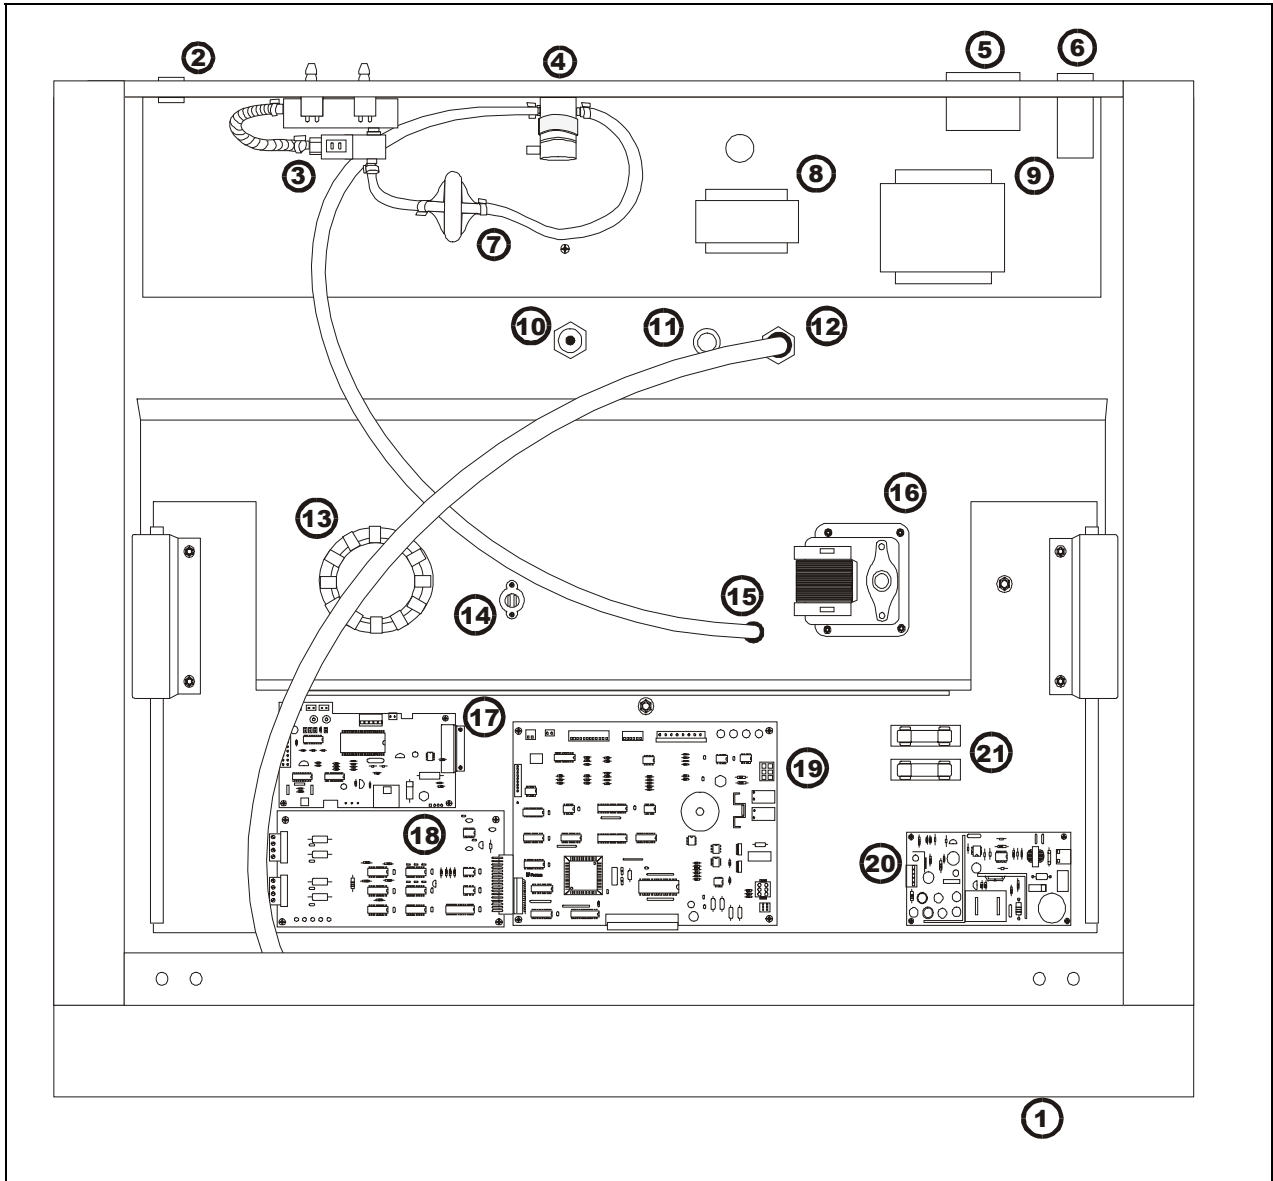

Figure 5-8
5. Refer to Figure 5-8 for the location of the two fuses. (Items 21 in the illustration)
Refer to Figure 5-8. Some of the components shown in this illustration are factory installed options. They are identified as such in the descriptions below.
3. Locate the Analog Output board, Figure 6-4 and Item 18 of Figure 5-8.